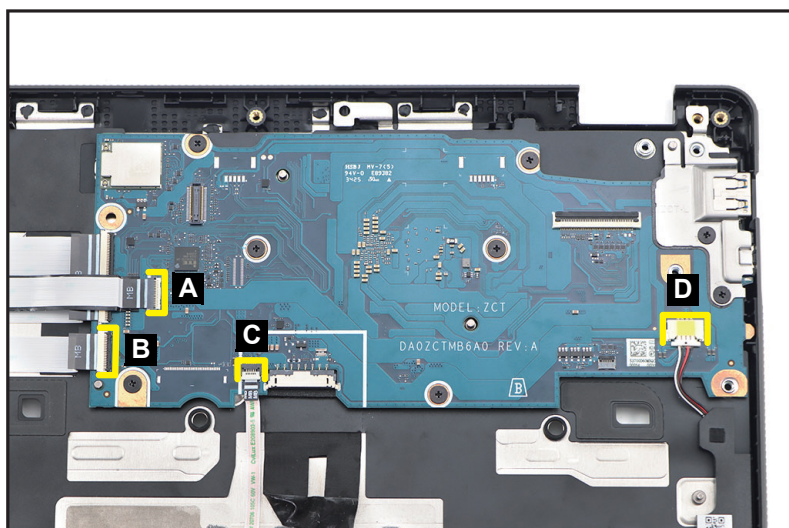

Figure 1-28. Mainboard Removal
1. Disconnect the I/O board (L) FFC from the mainboard connector (A) (Figure 1-28).
2. Disconnect the audio board FFC from the mainboard connector (B) (Figure 1-28).
3. Disconnect the touchpad FFC from the mainboard connector (C) (Figure 1-28).
4. Disconnect the speaker cable from the mainboard connector (D) (Figure 1-28).